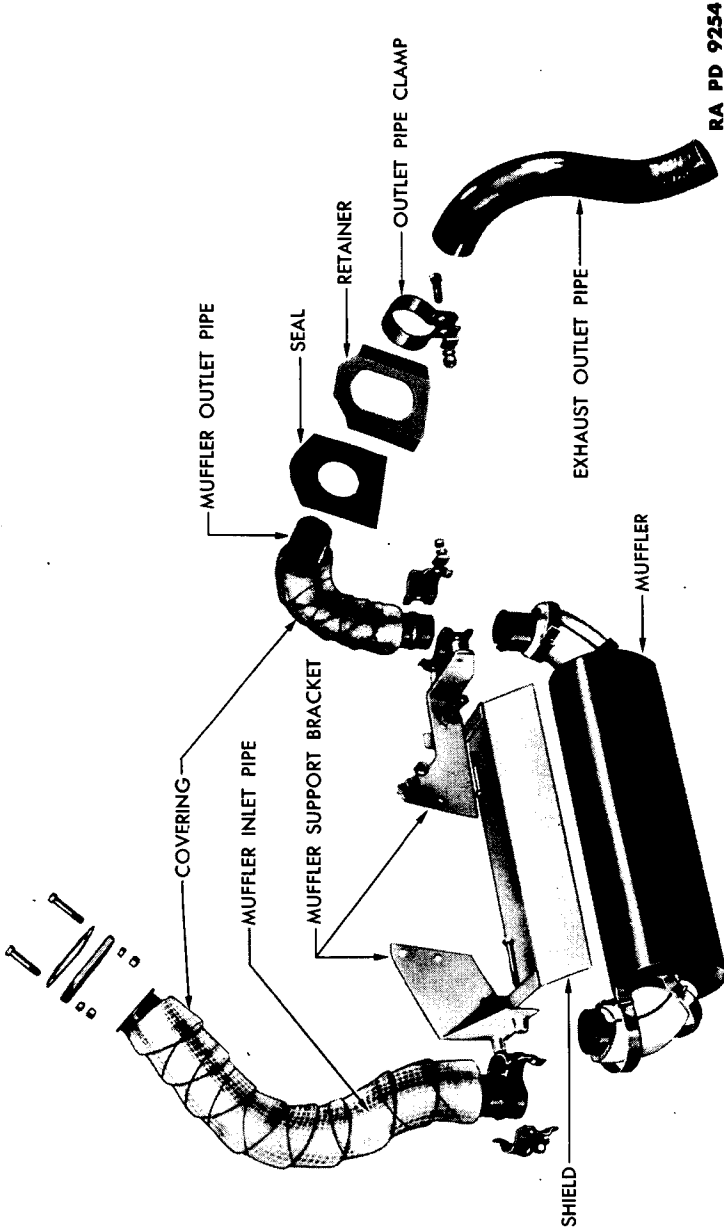

Figure 33 — Exhaust System Disassembled
(4) **REMOVE MUFFLER AND EXHAUST PIPES.** Remove deflector from muffler by taking out two mounting screws (fig. 33). Remove four nuts and screws that hold the muffler inlet pipe to exhaust manifold flange. Remove four nuts that hold exhaust system mounting brackets to studs on crankcase. Lift muffler and pipe assembly from engine.